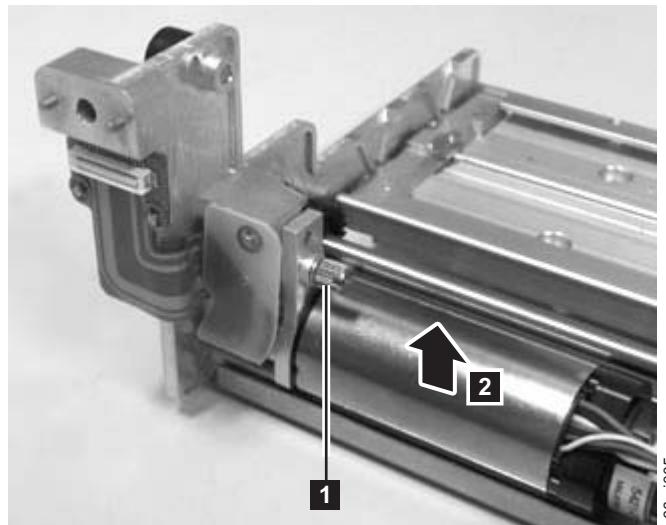

Figure 8-51. Y motor thumb screw
5. Use a small flat blade screw driver to pry up on the small white connector (**2** in Figure 8-51) gently working the screw driver blade along the entire outside edge of the connector.
6. Loosen the thumb screw (**1** in Figure 8-51), slide the motor to the left, then lift the motor out of the Robot Assembly (**2** in Figure 8-51).